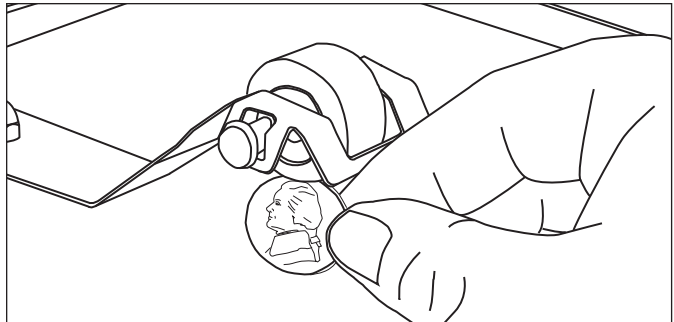

Figure 11. Measuring the Roller Tensioner
**NOTE: As of March 2017, the Interlock Switch was removed from use. If your toaster has the Interlock Switch (Figure 11), you will need to place the Heat Shield onto the toaster in order for the conveyors to turn. If your toaster does not have an Interlock Switch, the conveyors will turn as long as the unit is on.**
Align the ends of the Belt Wrap properly (Figure 11) or the Belt Wrap may be damaged.
1. Measure the Roller Tensioner on both inner Conveyor Covers (Figure 11) using a U.S. Nickel.